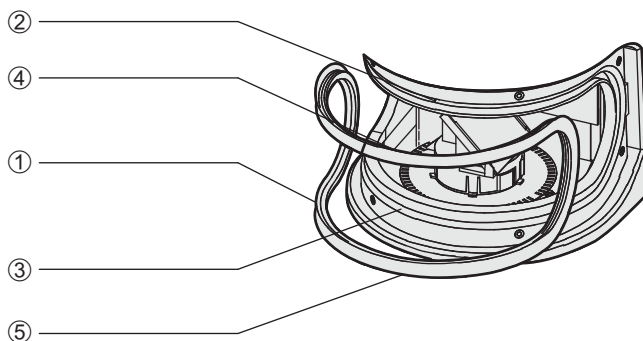

Figure 61: Inserting the rubber seal
- Place the front screen on the rubber seal and insert the new mounting screws ① to ④ with spacers (see Figure 61).
- Press the front screen on the front of the cover. During this process tighten the front screws ① to ④ to the torque set.
- Then insert the rest of the screws ⑤ to ⑧ with spacers (see Figure 61) and tighten using the torque wrench.